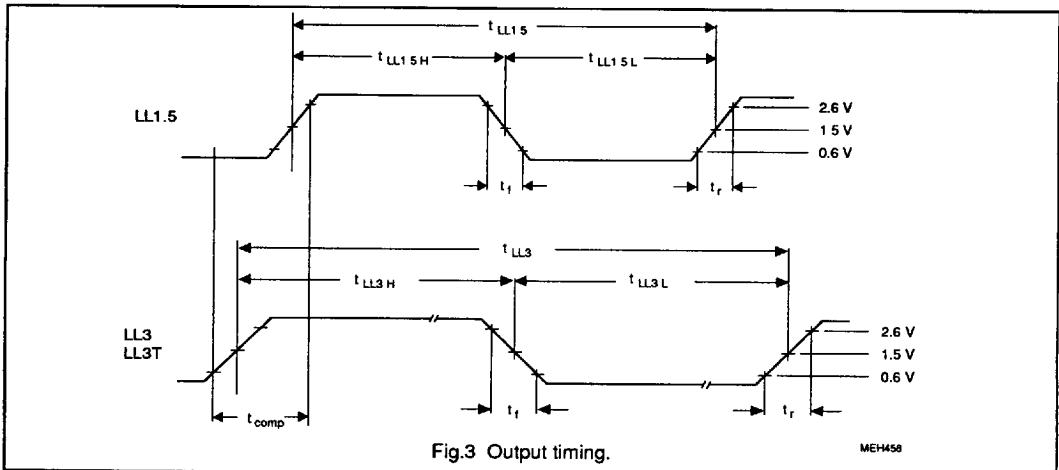

Fig.3 Output timing.
2.  $t_{comp}$  is the rise time from LOW of all clocks to HIGH of all clocks (Fig.3) including rise time, skew and jitter components. Measurements taken between 0.6 V and 2.6 V.